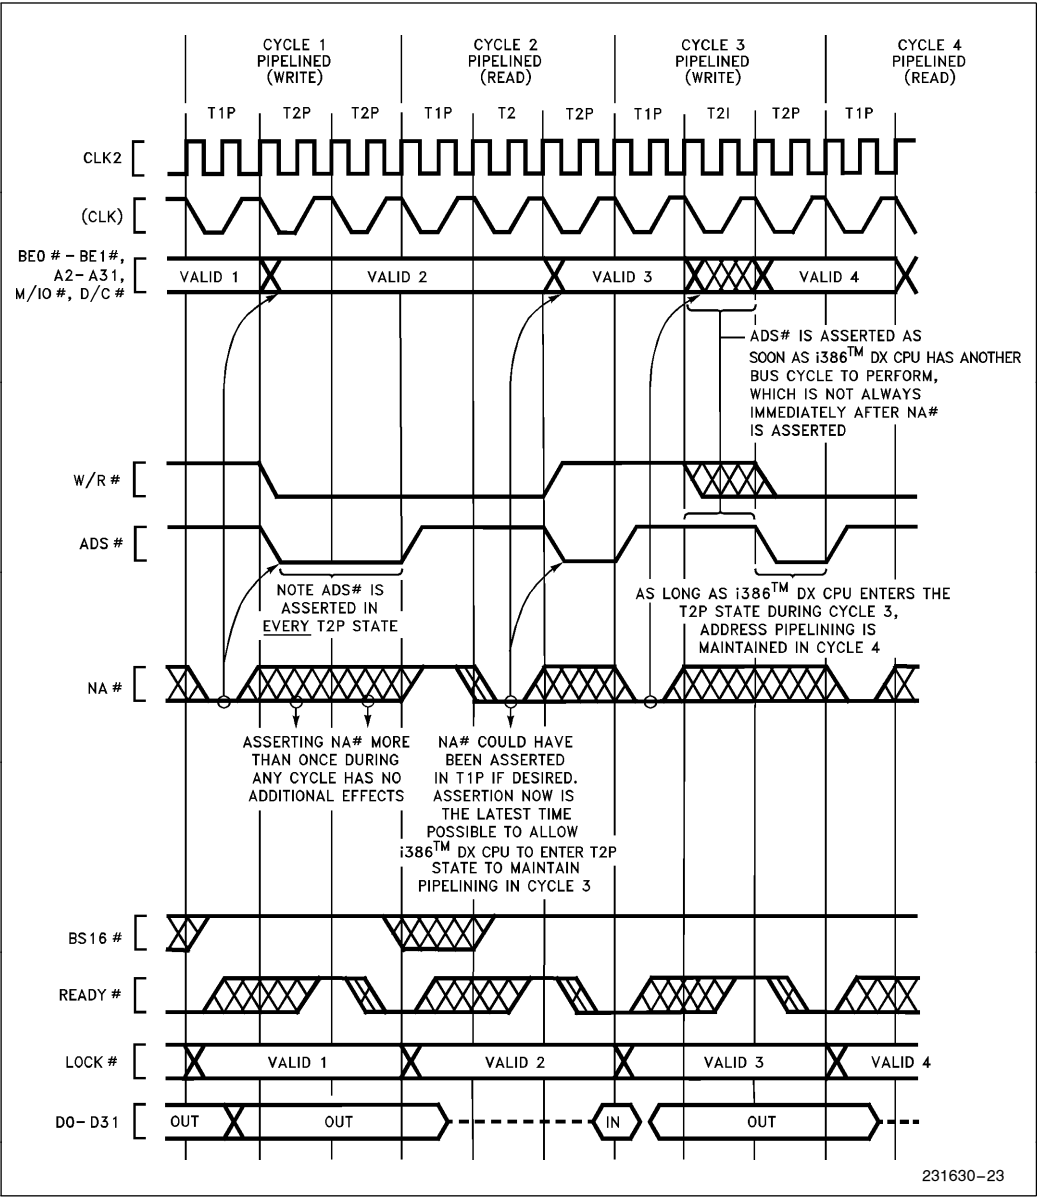

Figure 5-19. Details of Address Pipelining During Cycles with Wait States
- 2) The next address may appear as early as the bus state after NA# was sampled asserted (see Figures 5-16 or 5-17). In that case, state T2P is entered immediately. However, when there is not an internal bus request already pending, the next address will not be available immediately after NA# is asserted and T2I is entered instead of T2P (see Figure 5-19 Cycle 3). Provided the current bus cycle isn't yet acknowledged by READY# asserted, T2P will be entered as soon as the Intel386 DX does drive the next address. External hardware should therefore observe the ADS# output as confirmation the next address is actually being driven on the bus.
- 5) Only the address and bus cycle definition of the very next bus cycle is available. The pipelining capability cannot look further than one bus cycle ahead (see Figure 5-19 Cycle 1).